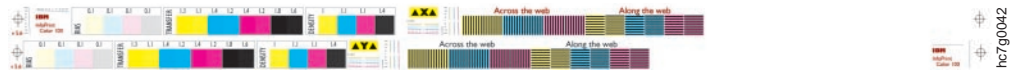

Figure 175. Auto-Registration Control Strip: Csregvwi
- Use auto-registration control strip Csregvwi with auto-registration and jobs at least as wide as 14.31 inches. See Figure 175.
Csregvwi (Figure 175 on page 202)